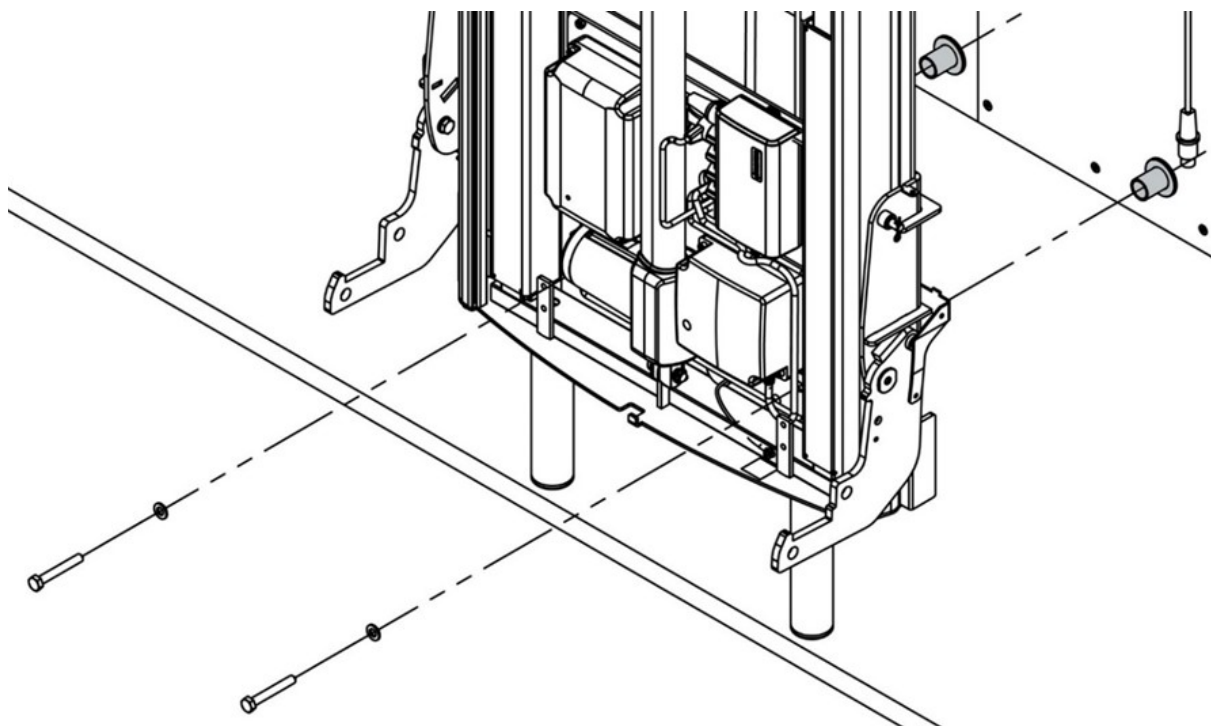

Fig 12.5b
- Using the screws provided No. 8 x 2 23/64" (60 mm) coach screws fit the top three first and then the lower two, as shown in Fig 12.5b. Ensure you have used the spacers provided on the bottom two fixings.